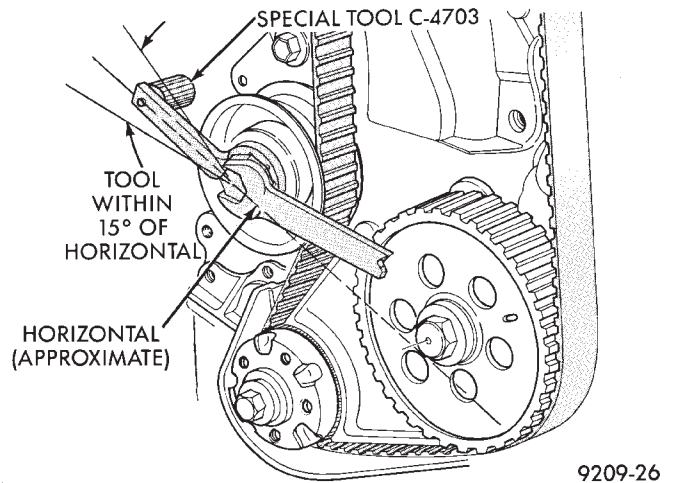

Fig. 13 Adjusting Drive Belt Tension
- (5) Rotate crankshaft till number 1 cylinder is at the TDC position.
- (6) Put belt tension Special Tool C-4703 horizontally on large hex of timing belt tensioner pulley and loosen tensioner lock nut.
- (7) Reset belt tension Special Tool C-4703 index if necessary to have axis within 15° of horizontal.(Fig. 13)
- (8) Turn engine clockwise from TDC two crank revolutions to TDC. **Do not reverse rotate crankshaft or attempt to rotate engine using cam or accessory shaft attaching screw.**
- (9) Hold weighted wrench in position while tightening bolt on tensioner to 61 N•m (45 ft. lbs.) torque.